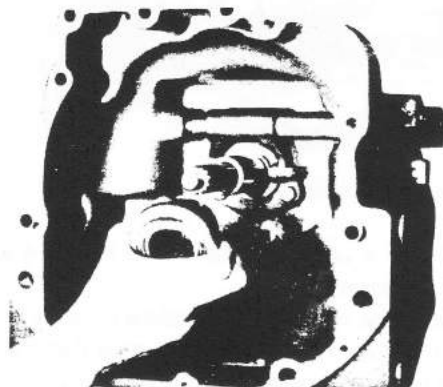

Fig. 10 Removal of Thrust Bearing Carrier
1. Remove the spring with pliers and then remove thrust bearing carrier with the thrust bearing from the support snout as shown in Fig. 10.